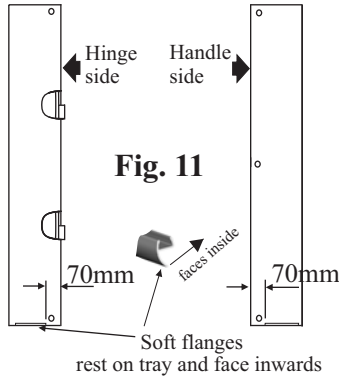

Fig 11
4.3 The gaskets already fitted to the narrow glass panels are to suit a door only application. Remove these gaskets and replace with the shorter gasket supplied. Fit these gaskets 70mm from those edges of the panels that will be adjacent to the door. See Fig 11.